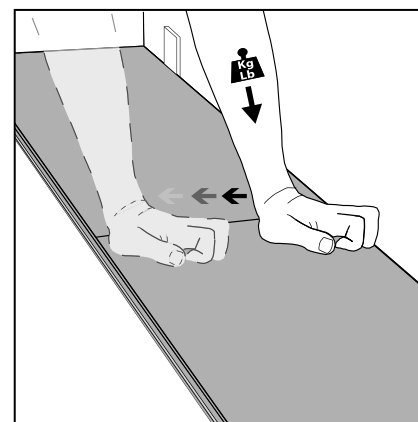

Figure 13 Ensure joints are fully engaged on the short sides
- > Press firmly down on the short end of the next panel into the corresponding short edge of the first one, you should audibly hear these lock securely together. Using hand pressure gently push down the short joints along the short end just installed. (Fig 13).